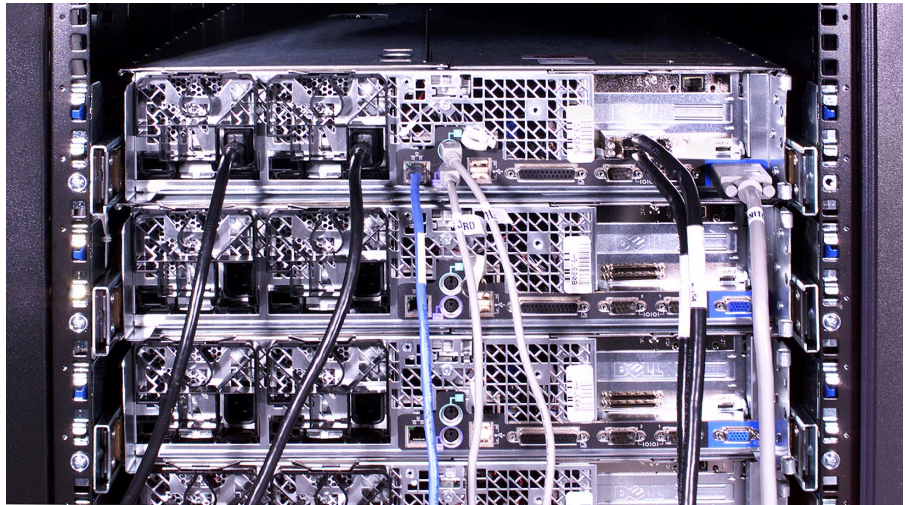

Figure 2. Connecting the Cables to the System
- Power (2)
- Small computer system interface (SCSI) (2)
2. Connect the cables to your system, as shown in Figure 2.